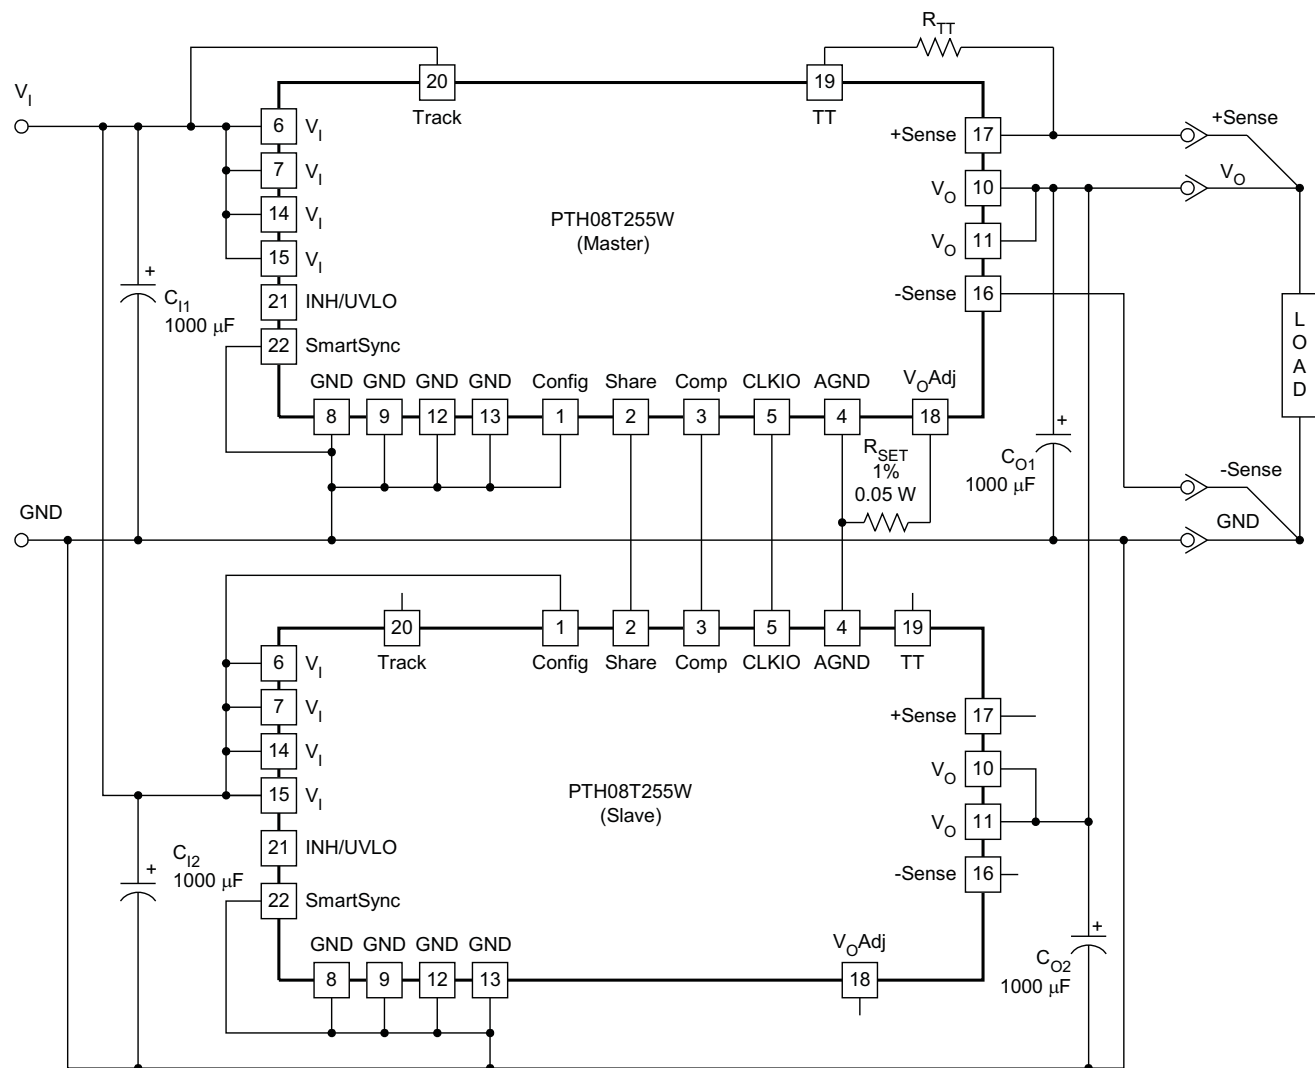
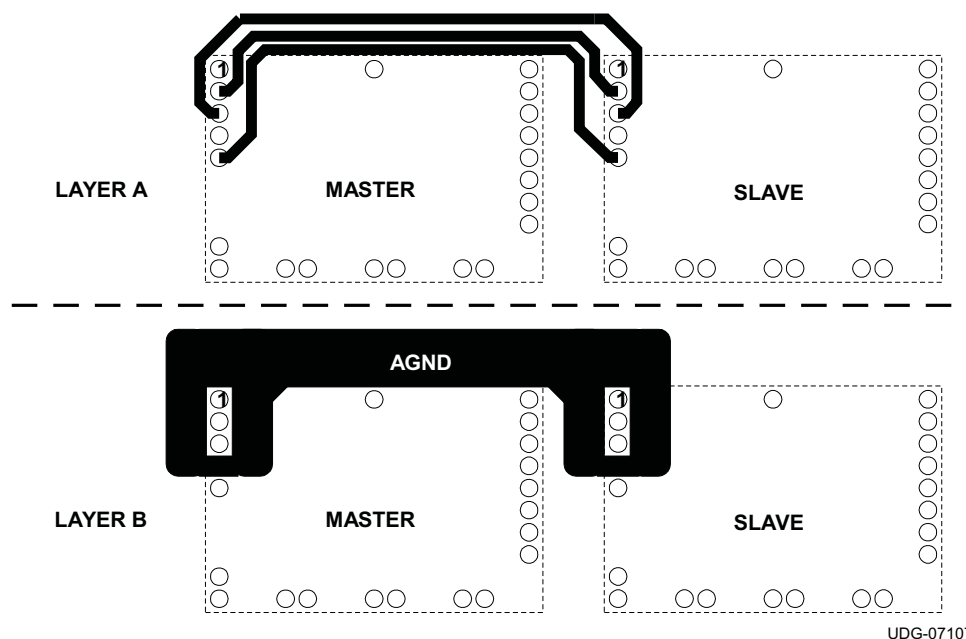

Figure 19. Typical Current Sharing Diagram
Figure 22. Recommended Layout of Inter-Connection Pins Between Two Current Sharing Modules
The PTH08T255W module is capable of being configured in parallel with another PTH08T255W module to share load current. To parallel the two modules, it is necessary to configure one module as the Master and one module as the Slave. To configure a module as the Master, connect the CONFIG pin (pin 1) to GND. The CONFIG pin of the Slave must be connected to  $V_I$ . In order to share current, pins 2 thru 5 of both the Master and Slave must be connected between the two modules. See Figure 22 for the recommended layout of pins 2 thru 5. The module that is configured as the MASTER is used to control all of the functions of the two modules including Inhibit ON/OFF control, AutoTrack sequencing, TurboTrans, SmartSync, +/- Remote Sense, and Output Voltage Adjust. See the current sharing diagram in Figure 19 for connections. The MASTER and the SLAVE must be powered from the same input voltage supply.
See Figure 19 and Table 7 for a diagram and connection description of each pin when two PTH08T255W modules are being used in a MASTER/SLAVE configuration.
(1) For more details on the pin descriptions, please refer to the 'Terminal Functions' described in Table 1
(2) See Layer A in Figure 22 for recommended layout
(3) See Layer B in Figure 22 for recommended layout
In current sharing applications the  $V_I$  pins of both modules must be connected to the same input bus. The  $V_O$  pins of both modules are connected together to power the load. The GND pins of both modules are connected via the GND plane. Four other inter-connection pins are connected between the modules. Figure 22 shows the required layout of the inter-connection pins for two modules configured to share current. Notice that the Share (pin 2) connection is routed between the Comp (pin 3) and CLKIO (pin 5) connections. AGND (pin 4) should be connected as a thicker trace on an adjacent layer, running parallel to pins 2, 3 and 5. AGND must not be connected to the GND plane.